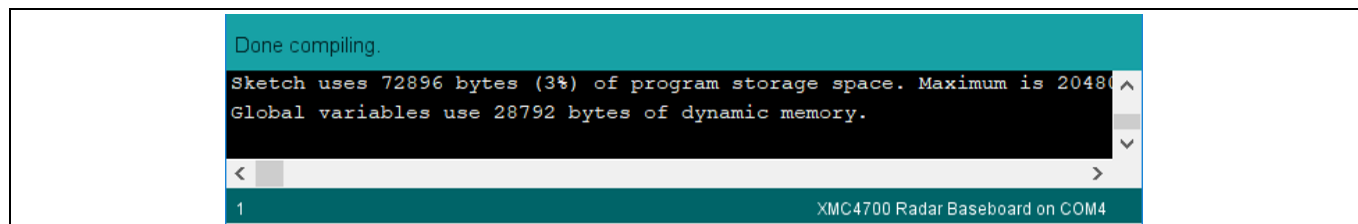

Figure 26 **Compilation successful**
9. Compile the sketch by clicking the “Verify” button (Figure 25). A success message will be displayed on compilation completion (Figure 26).